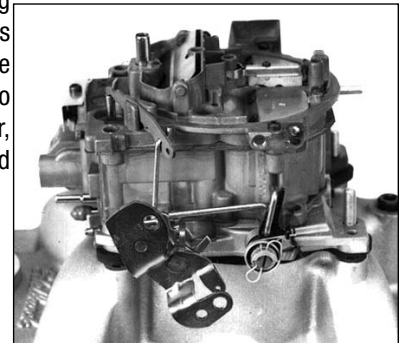

Figure 1
4. Disconnect throttle linkage, kickdown linkage (certain automatic transmission applications only), cruise control (if equipped) and any return springs if present. **NOTE:** Check carefully for the precise location of all these linkages and return springs. You may want to mark them with masking tape for easy reference. Compare throttle arm of your new carburetor with the old one to be sure that all required linkages will hook up. Ball stud is usually removable and must be installed in the proper location (see Figures 1 & 2).